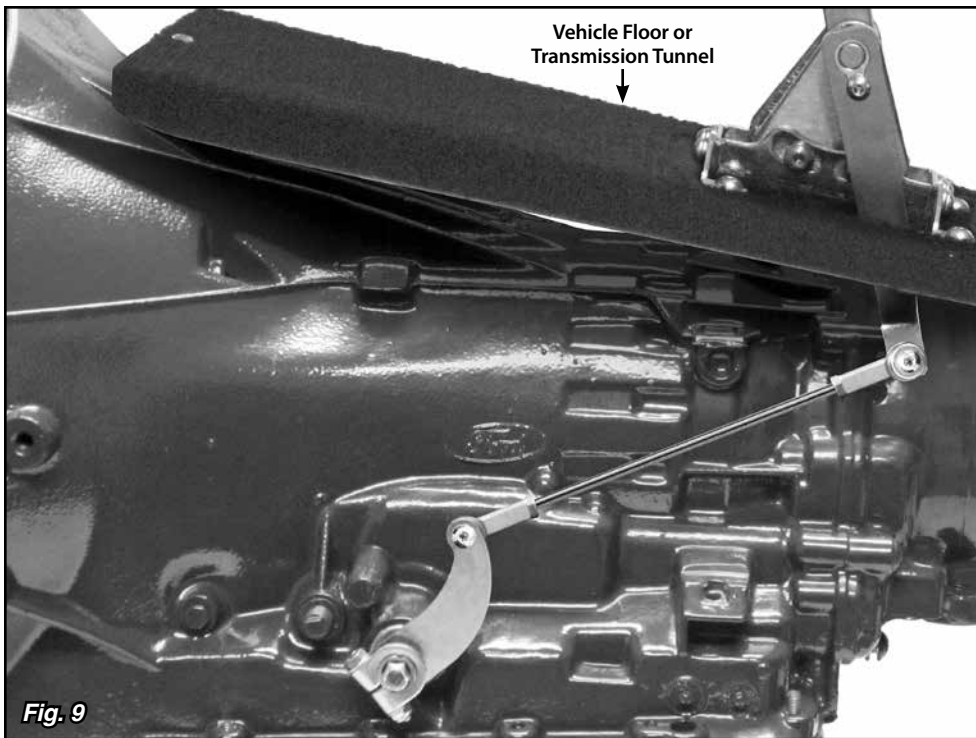

Fig. 9
**Step 12:** Make sure that two 1/4"-28 jam nuts are installed on the threaded rod, one at each end. Install a rod end onto each end of the threaded rod. Position the rod ends on the inside or outside of the quad shift lever and trans arm so that the threaded rod is as straight as possible. Attach the threaded rod assembly to the quad shift lever and trans arm using the 1/4"-28 x 1" button head bolts, flat washers, and nylock nuts as shown in **Fig. 8**. The button head bolts can be installed from either direction, but make sure the rod ends are sandwiched between the flat washers and the quad shifter lever or trans arm. **Fig. 9**